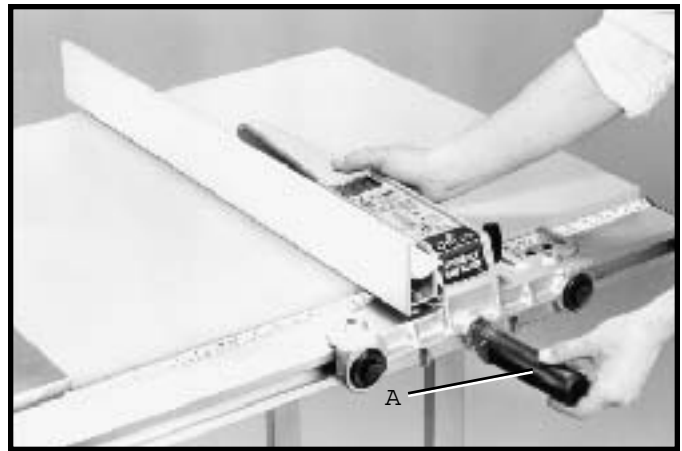

Fig. 94
4 To move the fence along the guide rail, simply lift up clamp lever (A), as shown in Fig. 94, slide fence to desired position on the rail, and push down on clamp lever (A) to lock fence in place.